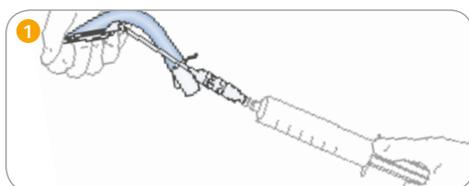

Figure 1: LMA Protector Airway deflation
- Hold the syringe and LMA® Protector™ Airway exactly as shown in Figure 1